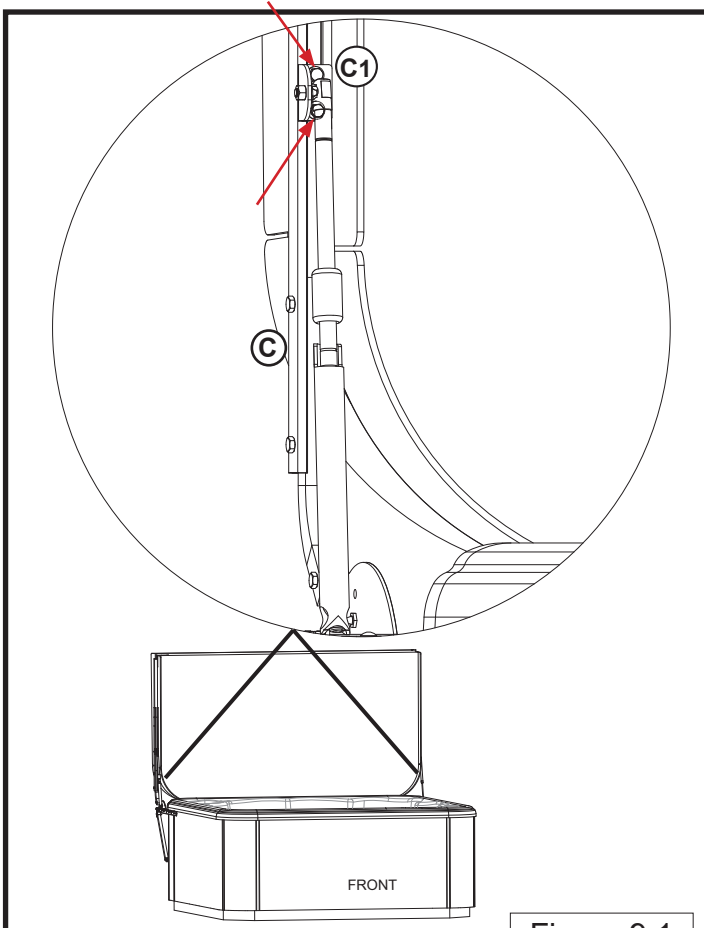

Figure 9.1
- 1a. Find the two bolts that hold the Assy. Channel Ball Stud Bracket (C1) and loosen the two bolts located using a 7/16" wrench (Figure 9.1).
- 3a. Once Assy. Channel Ball Stud Bracket (C1) is set to desired position, tighten the two bolts (Figure 9.1).
- 3b. Follow steps 1a thru 3a on this page to adjust the fully open position angle of your cover (Figure 9.1).